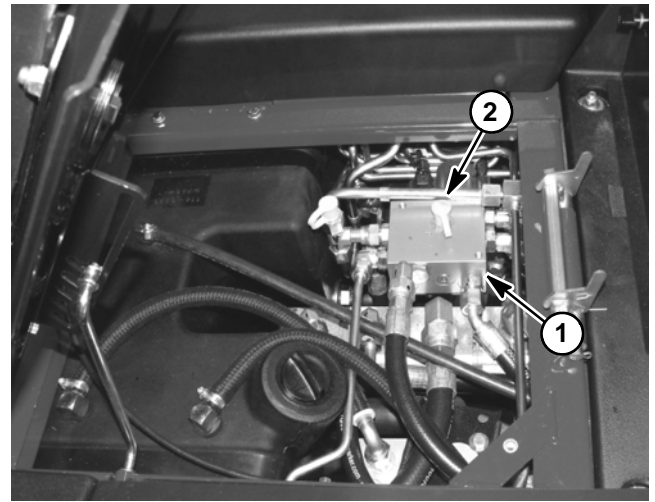
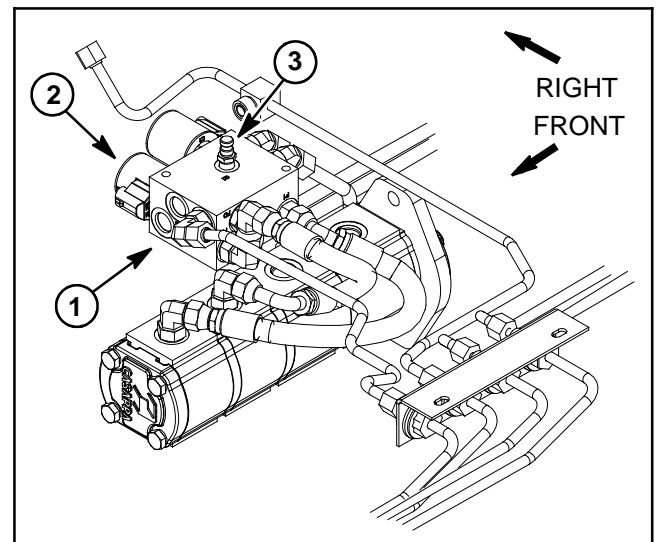

Figure 48
Figure 49
3. Raise seat to gain access to fan drive manifold (Fig. 48). Connect a 5,000 PSI (345 bar) pressure gauge with hydraulic hose attached to test port on top of manifold (Fig. 49).